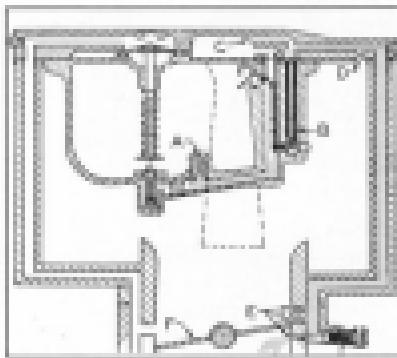

Fig. 284. Idle and Low Speed System.
The carburetor idle system controls the fuel-air mixture from the carb idle setting up to approximately 25 to 30 miles per hour. As shown in Fig. 284, the fuel in the float bowl passes through the calibrated main metering jets (A) horizontally to the base idle tubes (B). In the bottom of each of these idle tubes is a .026" drilled orifice which governs the actual amount